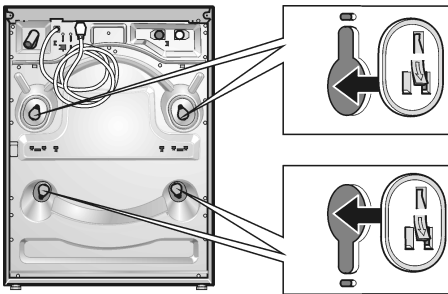

Figure 15
- Insert the covers until they snap in completely (see **Figure 15**).